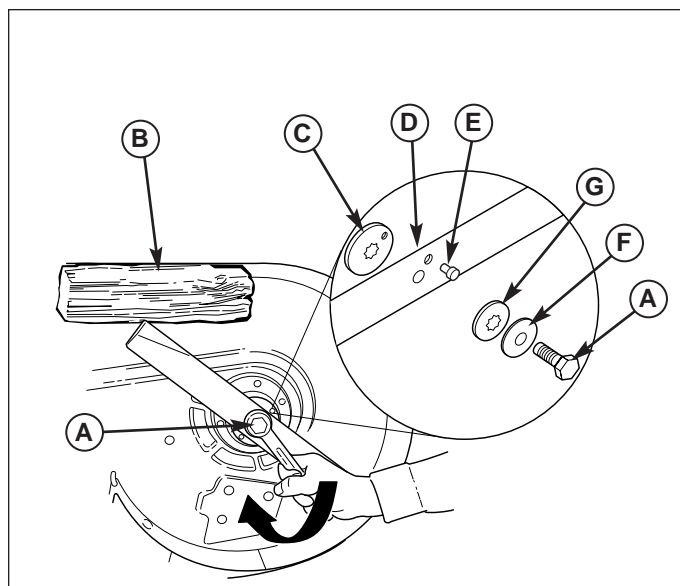
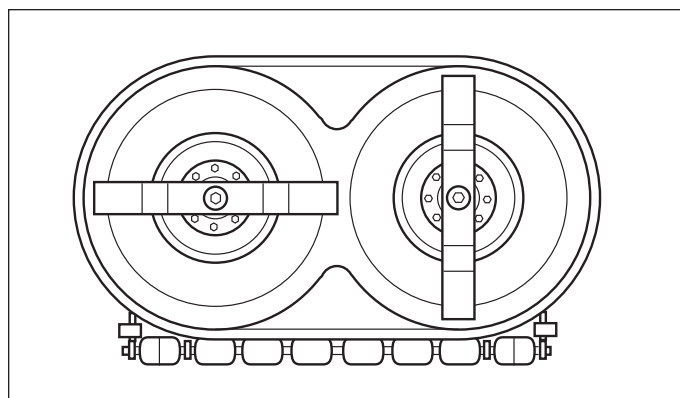

Figure 19. Blade Installation & Hardware
Figure 20. Check Blade Timing
- 40" Mowers:** Remove the capscrew (A, Figure 19), spring washer (F), spline washer (G), alignment pin (E) and blade (D). Do not remove the blade adapter (C).
- 40" Mowers:** Be sure the blades are positioned perpendicular to each other as shown in Figure 20. If not, perform the Mower Blade Timing procedure found in this section. Reinstall the spline washer (G, Figure 19), spring washer (F) and capscrew (A). Use a wooden block (B) to prevent blade rotation while tightening the capscrew (A) to 61-75 N.m (45-55 ft. lbs.).
2. Turn the mower deck over and check the position of the blades. The blades must be positioned perpendicular to each other as shown in Figure 20. If not, proceed to step 3.
3. Use a block of wood (B, Figure 19) to prevent blade rotation while loosening the capscrew.
4. Remove the capscrew (A), spring washer (F), and spline washer (G).
5. Remove the alignment pin (E). Rotate the blade (D) manually until the blades are perpendicular to each other as shown in Figure 20. It may be necessary to remove and rotate the blade adapter (C) to align the blade hole and adapter hole.
6. Reinstall the alignment pin (E), spline washer (G), spring washer (F) and capscrew (A). Use a wooden block (B) to prevent blade rotation while tightening the capscrew (A) to 61-75 N.m (45-55 ft. lbs.).